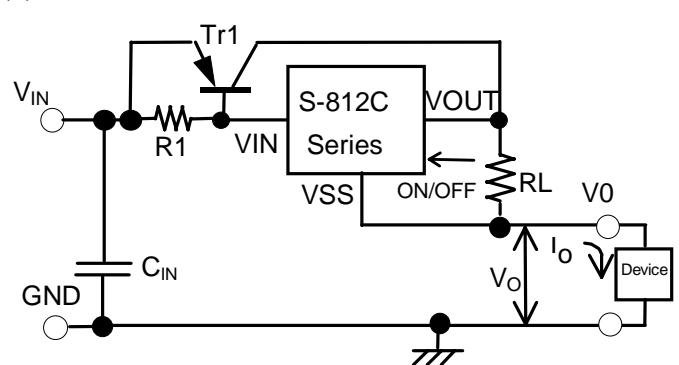

Figure 12 Constant Current Circuits
The S-812C series can be served in a constant current circuit as shown in the figure 12. Constant current I_O is calculated from the following equation:
Please note that in case of the circuit shown in the figure 12 (1) the magnitude of the constant current I_O is limited by the driving ability of the S-812C.
The circuit shown in the figure 12 (2) can, however, provide the current beyond the driving ability of the S-812C by combining a constant current circuit with a current boost circuit. The maximum input voltage for the constant current circuit is the sum of the voltage V_O of the device and 16 V. It is not recommended to attach a capacitor between the S-812C power source V_{IN} and V_{SS} pins or between output V_{OUT} and V_{SS} pins because rush current flows at power-on.
(1) Constant Current Circuit
(2) Constant Current Boost Circuit